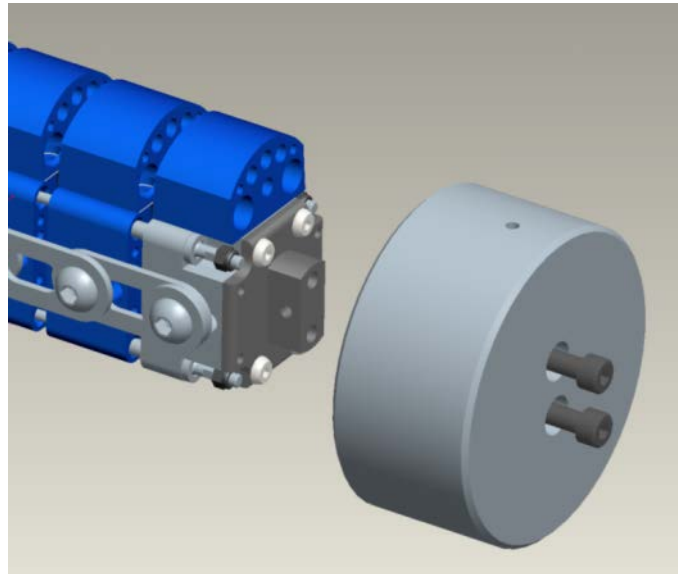

Figure 91 . Attaching Pendulum Ballast Weight
Step 7: Attach the ballast weight (Part Nr 133-8436) as shown in Figure 91 to the top of the femur using two M8 x 50 long cap head screws;